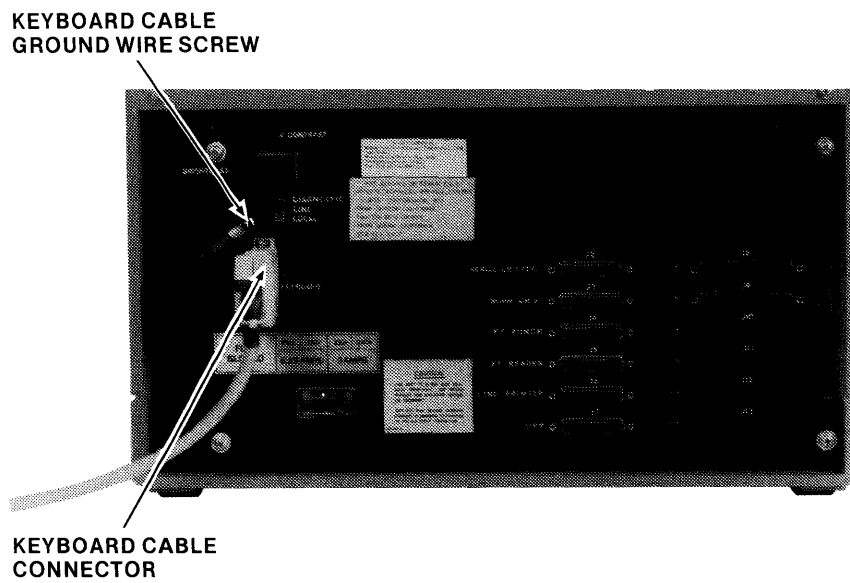

Figure 2-7. Rear Chassis Panel Keyboard Connection
8. Insert the chassis connector of the keyboard cable into connector J1 on the rear chassis panel, marked KEYBOARD, shown in Figure 2-7. Be certain to fasten the keyboard cable ground wire to the screw next to the J1 connector. If the ground wire is loose, turn the keyboard over and remove the two screws hold the cover in place. Lift the keyboard top out and fasten the ground wire.